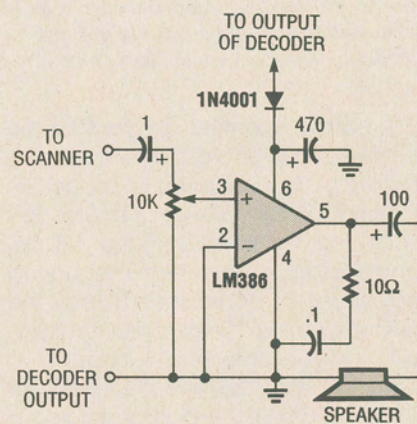

Fig. 5. If your receiver's output can't drive a speaker directly, this circuit will enable you to feed the receiver's output to a speaker.
**Modifications.** If your receiver output jack can drive a speaker, you can replace the buzzer with a reed relay as shown in Fig. 4. Instead of a buzzer, the speaker will be activated so that you can listen to the warning message. If the output jack can't drive a speaker, try replacing the buzzer with the circuit in Fig. 5 to add the additional boost needed to drive the speaker.